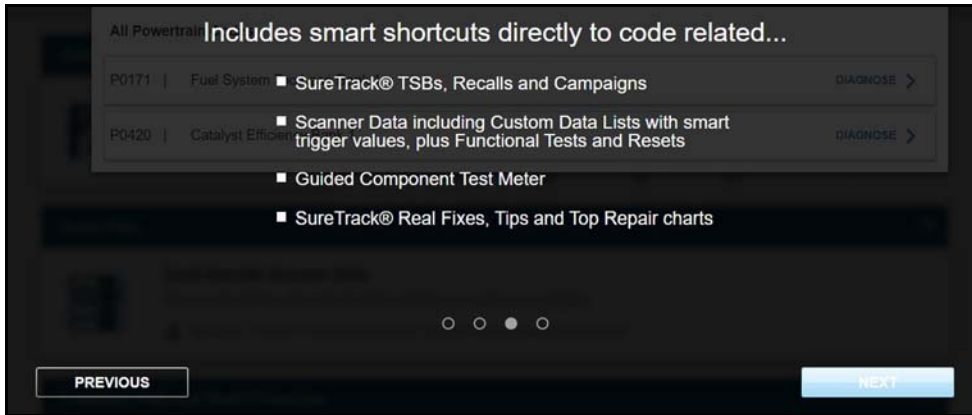

Figure 2-3 Intelligent Diagnostics Feature Descriptions
4. As the demo continues, navigational hints and code-specific features are described (Figure 2-3). Select **Next** to continue.